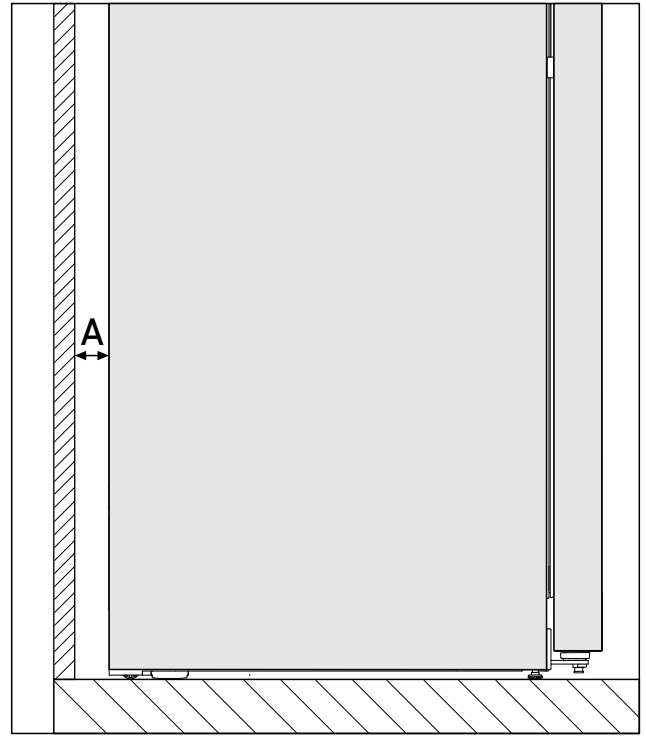

Fig. 2*
The energy consumption has been determined with a gap of Fig. 2 (A) between the rear of the appliance and the wall. If the wall gap is less than Fig. 2 (A), this does not affect the appliance's operability but the energy consumption does increase slightly at a smaller wall gap.*